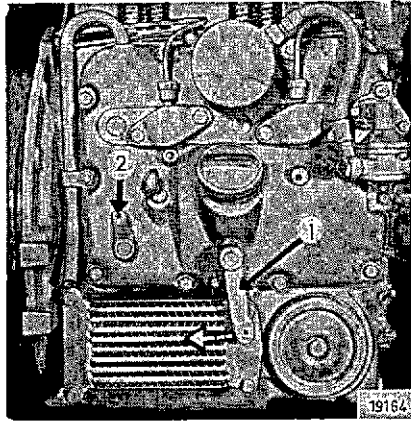
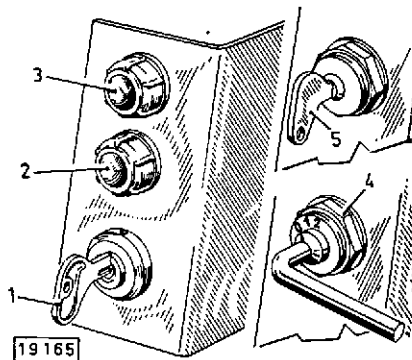

Fig. 3
Fig. 4
2. Move speed control lever 1 (Fig. 3) to about quarter speed by hand or foot (arrowed direction).
3. Insert starter key 1 (Fig. 4), turn clockwise to detent and check that charging pilot lamp 2 and oil pressure lamp 3 light up. Push key in deepest position and turn farther clockwise against spring pressure; release key as engine starts firing.
2. Set speed control lever 1 (Fig. 3) by hand or foot to about 1/4 speed position in the direction of the arrow.
1. Set speed control lever 1 (Fig. 3) to low idling.
2. Operate stopping lever 2 (Fig. 3) on the injection pump until the engine comes to a stop, whereafter the charging pilot lamp 2 (Fig. 4) and oil pressure lamp 3 (Fig. 4) will light up again.
3. Turn starter key 1 anti-clockwise to first detent or, if a heater plug/starter switch 4 is provided, pull out switch box key 5; this will cause the charging pilot lamp 2 and the oil pressure lamp 3 to go out.
1. Disengage the clutch; 2. Move speed control to about quarter speed; 3. Insert switch-box key 5 (Fig. 4) to stop. Now turn heater plug/starter key 4 (Fig. 4) to position I and hold for approx. 1 minute (preheating). Then turn heater plug/starter key 4 to position II. As soon as engine commences firing, release heater plug/starter key (returns to O-position) or if engine failed starting, preheat again in position I. Never have the starter motor running uninterruptedly for more than 15 seconds. However, if sporadic firing occurs, the starter motor may be actuated up to 20–25 seconds. If engine fails starting, you save on your battery, if an interval of 2 minutes is allowed between successive starting attempts.